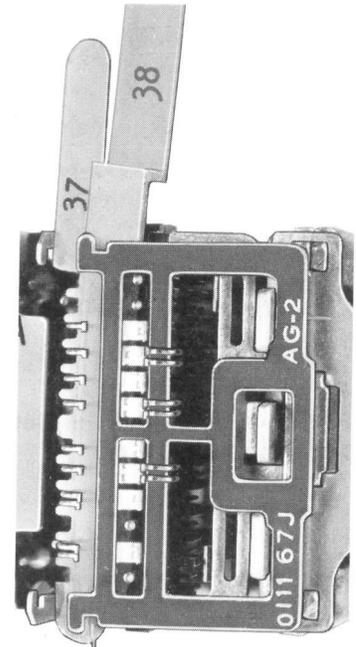

Fig. 8—Detail 38 Comb Lifter in Place With Detail 37 Comb
3.14 With the taper of detail 38 comb lifter facing to the right, place the groove (on left side of detail 38) over the right side of the protruding detail 37 comb. Holding the comb with the left hand, slowly push detail 38 comb lifter down until all movable contact springs are lifted in pairs as shown in Fig. 8.